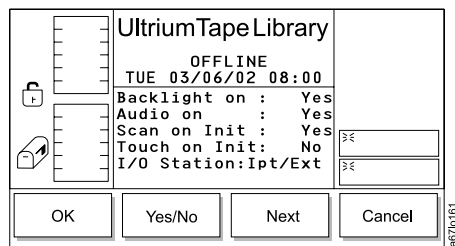

Figure 233. Config Dialog
4. Press the button below the **Config** softkey. The Config Dialog displays (see Figure 233) with the following information: